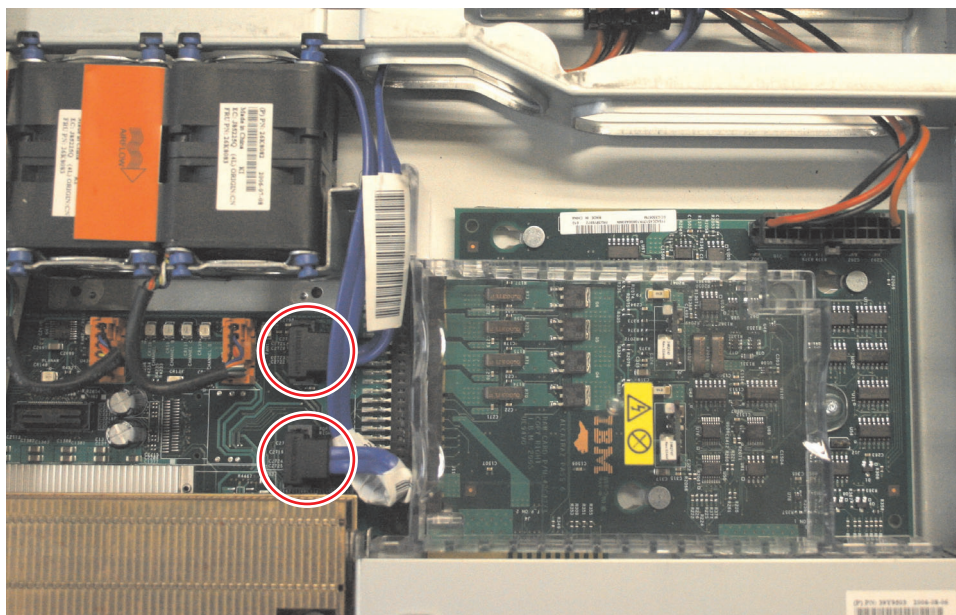

Figure 130. The SAN Volume Controller 2145-8G4 disk-drive backplane connectors
4. Reconnect the power cable to the power supply backplane card. Then reconnect the two blue signal cables to the system board. The left cable goes to the front system board connector and the right cable goes to the rear system board connector, as shown in Figure 130.